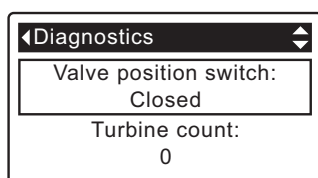

FIG. 88
2. Press the DOWN (▼) button to scroll through the list until **Valve position switch** is displayed (See Figure 88).